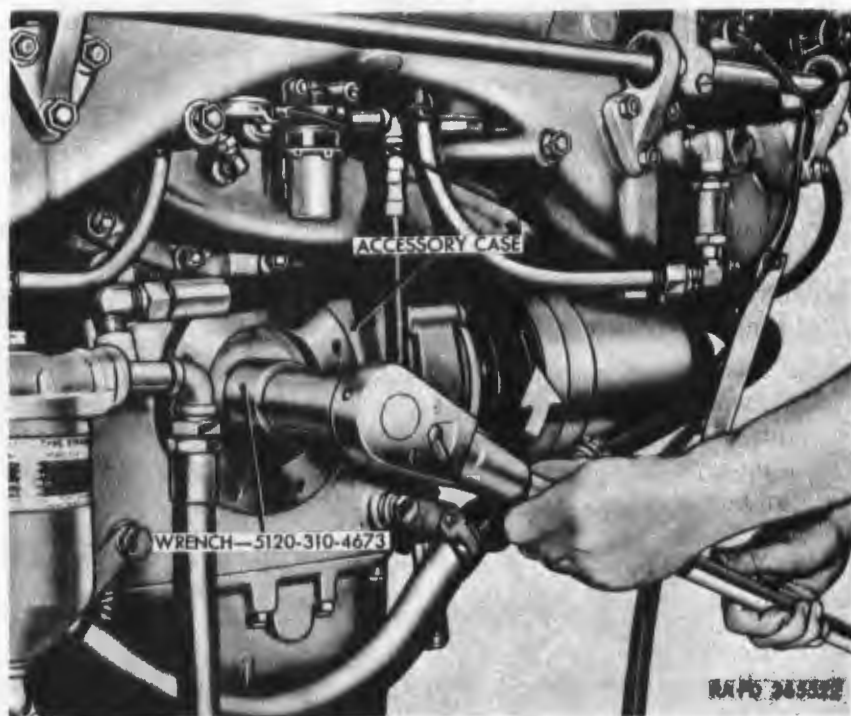

Figure 111. Engine turning wrench installed.
c. Install Engine Turning Wrench. Remove locking wire, eight hex-head bolts, and flat washers securing power takeoff cover (fig. 89) to accessory case and remove cover. Install engine turning wrench 5120-310-4673 (fig. 111) on power-take-off drive shaft.
- (5) Using wrench 5120-310-4673 (fig. 111), rotate power-take-off drive shaft counterclockwise.